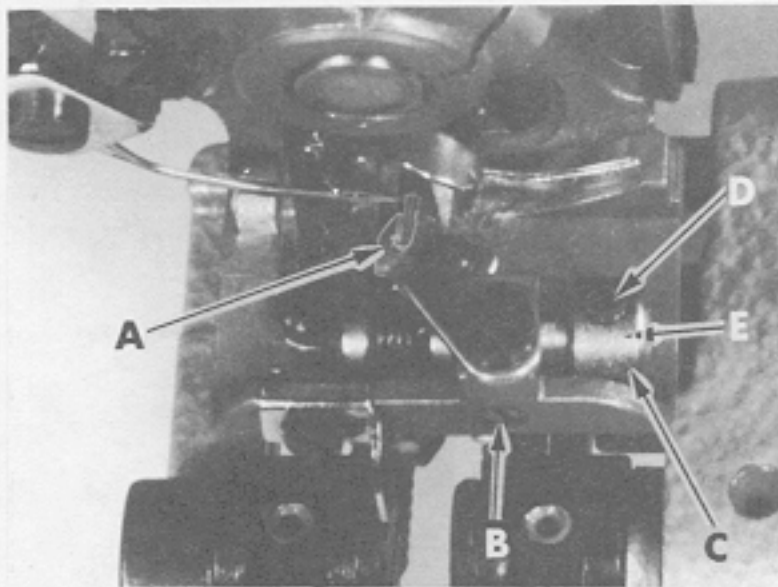

Fig. 23
Cloth retainer (A, Fig. 23) should be centered over ridge former disc and set as close as possible to the needle. Right to left adjustment can be accomplished by loosening set screw (B), repositioning bushing (C), as required and retighten set screw. Front to rear adjustment can be accomplished by loosening set screw (D), turn eccentric pin (E) as required and retighten set screw.
When sewing on material, the cloth retainer must hold material firmly against ridge former disc... otherwise skip-stitching may occur. More or less pressure can be applied to the cloth retainer by loosening set screw (B, Fig. 23) and rotate bushing (C) as required, being careful to keep cloth retainer centered over ridge former disc and retighten set screw.